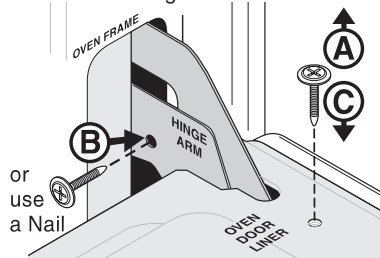

Figure 2
2. Remove 2 screws located on the inside of the oven door liner (See **A** Fig. 2).
3. Insert the 2 screws into the door hinge holes located on the side of the hinge arm, one into each hinge (See **B** Fig. 2).
5. Reinstall the 2 screws into the door liner (See **C** Fig. 2).